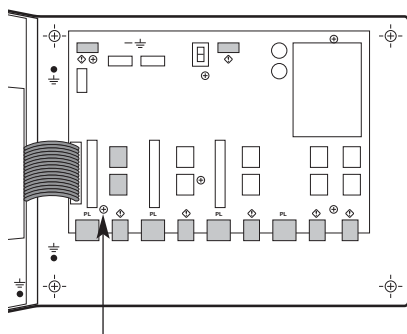

Figure 1 Remove all six screws attaching motherboard
- Unscrew the four Phillips (cross-head) screws holding the motherboard to the enclosure (see Fig 1). Remove the motherboard, and put it out of harm's way.